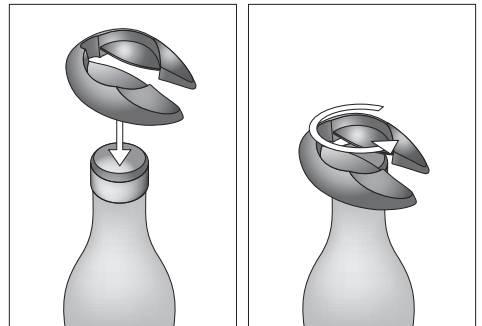

Figure 2
- 1) Use the foil cutter **6** to cut open the foil sleeve encasing the bottle cork: Place the foil cutter **6** onto the closed bottle of wine as shown in Figure 2.